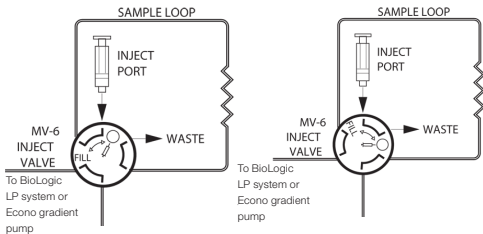

Fig. 2. Connecting to an MV-6 valve.
3. To maximize gradient accuracy and apply samples efficiently, install 1.6 mm ID tubing from the pump to the MV-6 sample inject valve (if available). If using the MV-6 sample inject valve, turn the knob counterclockwise as far as it will go so it corresponds to the diagram on the valve (Figure 2).
4. Connect the inlet of the cartridge to the male luer fitting on the MV-6 sample inject valve (Figure 2). If not using the MV-6 sample inject valve, connect a barb to male luer fitting on the 1.6 mm ID tubing, then connect to the top of the female luer on the Bio-Scale Mini cartridge. For optimum performance, mount the cartridge vertically, with the arrow on the cartridge pointing down.